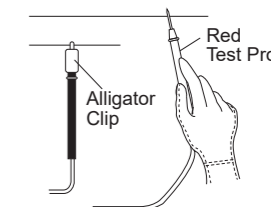

Fig.3
- Read the voltage on LCD. Refer to the Fig. 3